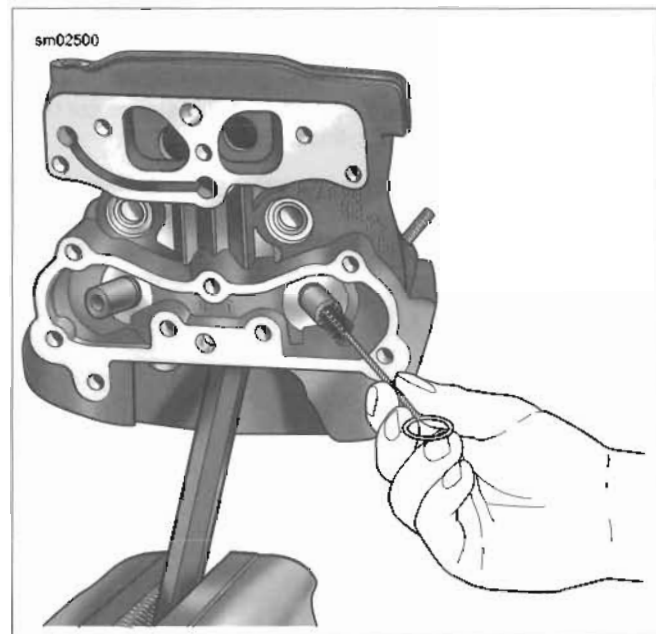

Figure 3-48. Scrubbing Valve Guide Bore
7. See Figure 3-48. Clean valve guide bore with the VALVE GUIDE CLEANING BRUSH (Part No. HD-34751).